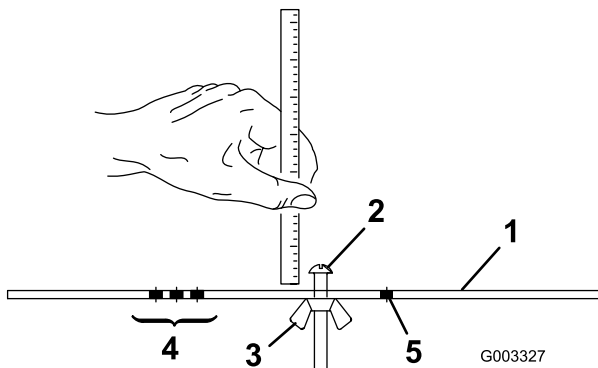

Figure 23
2. Loosen nut on gauge bar (Figure 23) and set adjusting screw to desired height-of-cut. Distance between bottom of screw head and face of bar is height-of-cut.